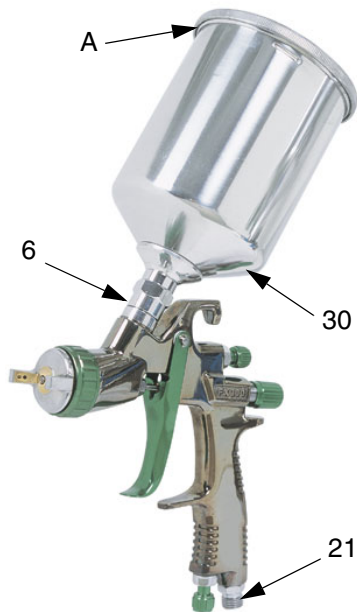

FIG. 1
4. Connect air supply line to gun air inlet (21). FIG. 1. Connect other end to shutoff valve.
5. Install fluid filter (29) into fluid inlet (6). Refer to page 8.
6. Screw on gravity cup (30).
7. Remove gravity cup cover (A) and fill cup with solvent to flush if this is first time using equipment.